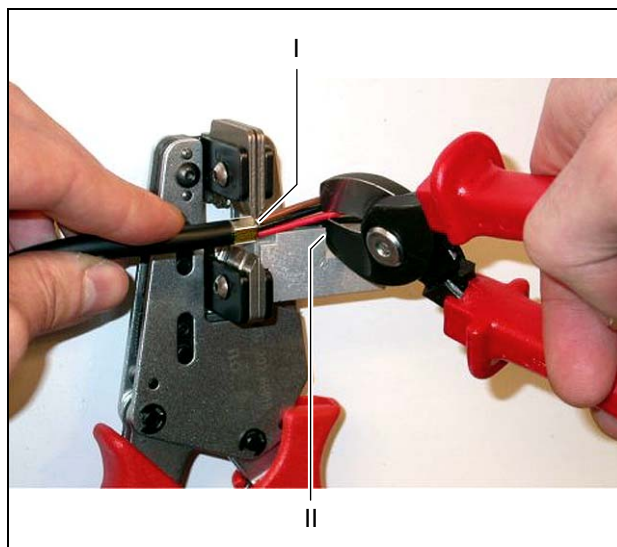

figure 3.6: Cutting a copper wire
- 8 Cut the copper wires at the required length using the cable cutter (tool 2) and the stripping tool (tool 5). To this end, position the crimping bush in position I and cut the copper wires at position II (see figure 3.6).